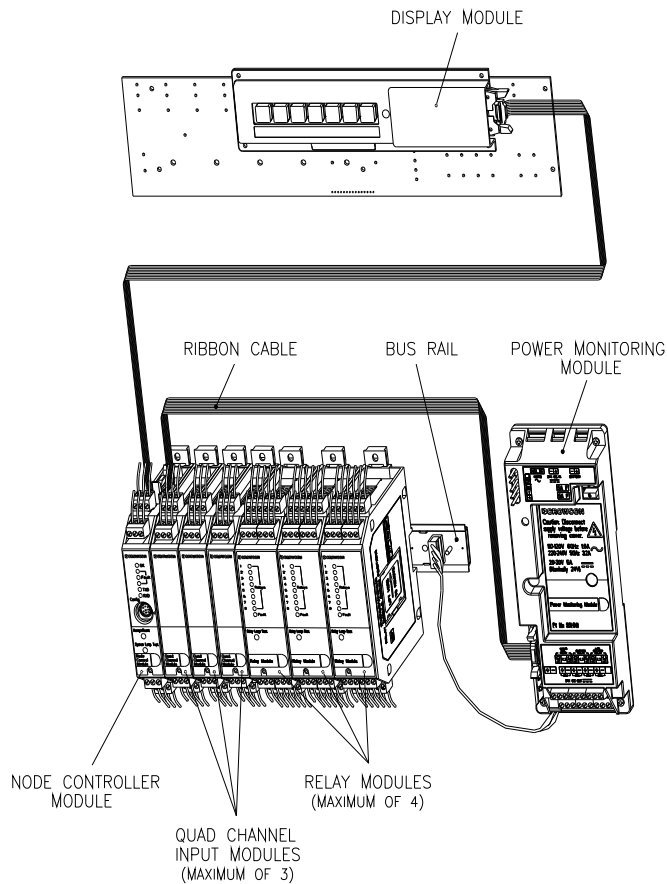

Figure 1 : General Assembly of Vortex Modules
Figure 1 shows the general assembly of the modules within the Vortex system. The number and arrangement of the modules will vary depending on your Vortex system configuration.
Figure 1 on page 4 shows the layout of the modules within the Vortex system. The number and arrangement of the modules will vary depending on your Vortex configuration.
4. Assemble the modules on the Bus Rail(s). To reduce interference with the input channels when switching heavy loads, the Relay Output Modules should be on the right of the Quad Channel Input Modules. The Node Controller Module should be at the left, as in Figure 1.